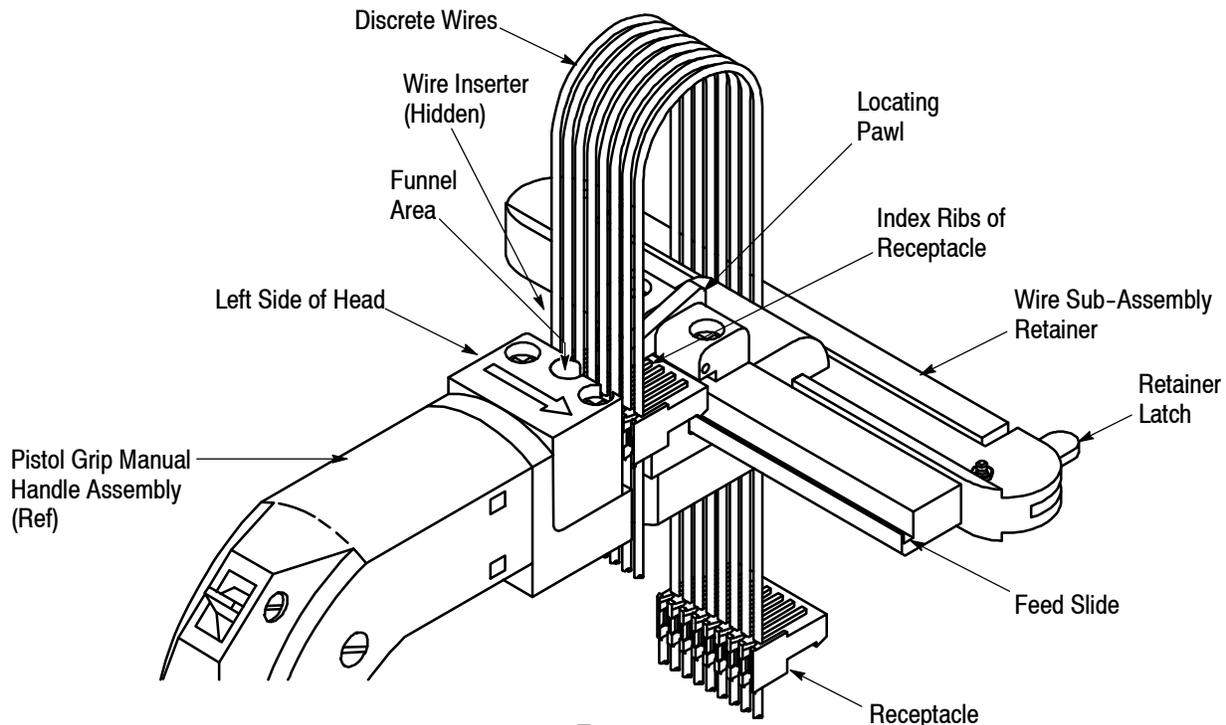

Figure 2
3. Refer to Figure 2, and:
4. Check that the locating pawl is resting between the index ribs of the receptacle. See Figure 2. If not, push the receptacle out of the RIGHT side of the head, and re-insert it.
NOTE After making the test crimp, the wire sub-assembly retainer can be used (as shown in Figure 2) to hold and locate the wires during terminations. Pivot the retainer latch to open the retainer.